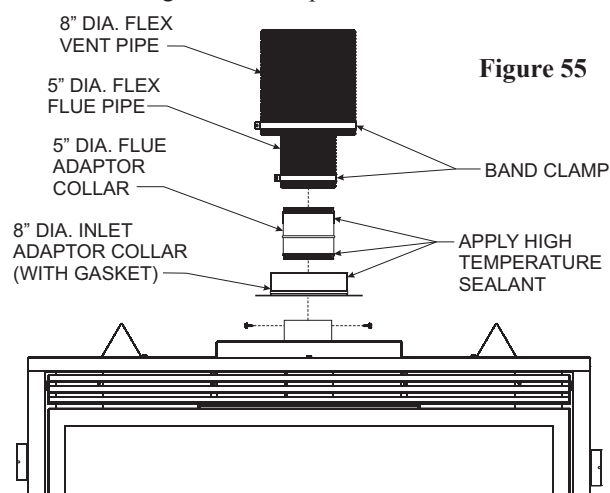

Figure 55
9. Apply sealant to the outside of the flue pipe adapter and connect to the flex flue pipe. Then insert the adapter into the fireplace flue. Secure flue adapter to the fireplace flue with a minimum of two screws provided. **See Figure 55.**